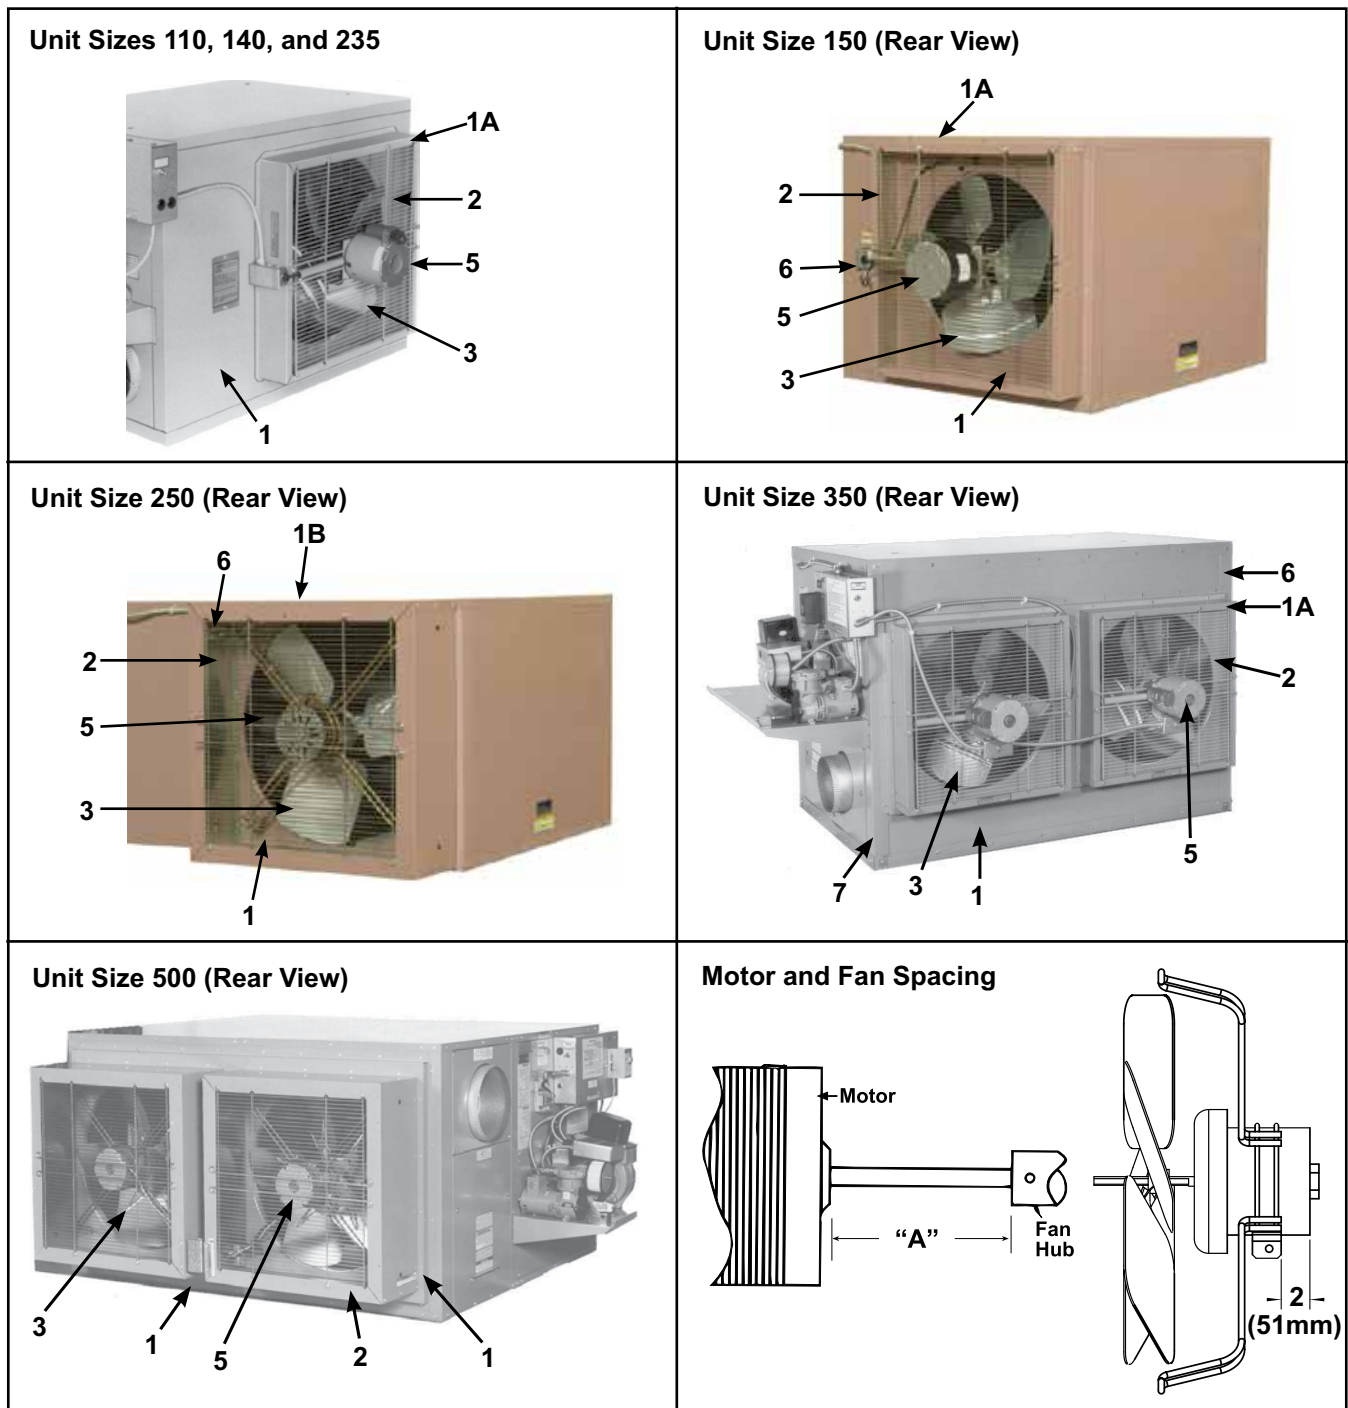

Figure 20. Cabinet and Fan Components—Model RA (Refer to Table 14)
- Cabinet and fan components for model RA are shown in Figure 20 and are listed in Table 14.